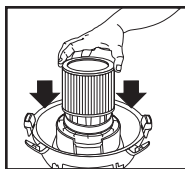

FIGURE 9
15. With the tank cover in an upside down position, slide the cartridge filter down over the lid cage, pushing until the filter seals against the cover. **FIGURE 9.**